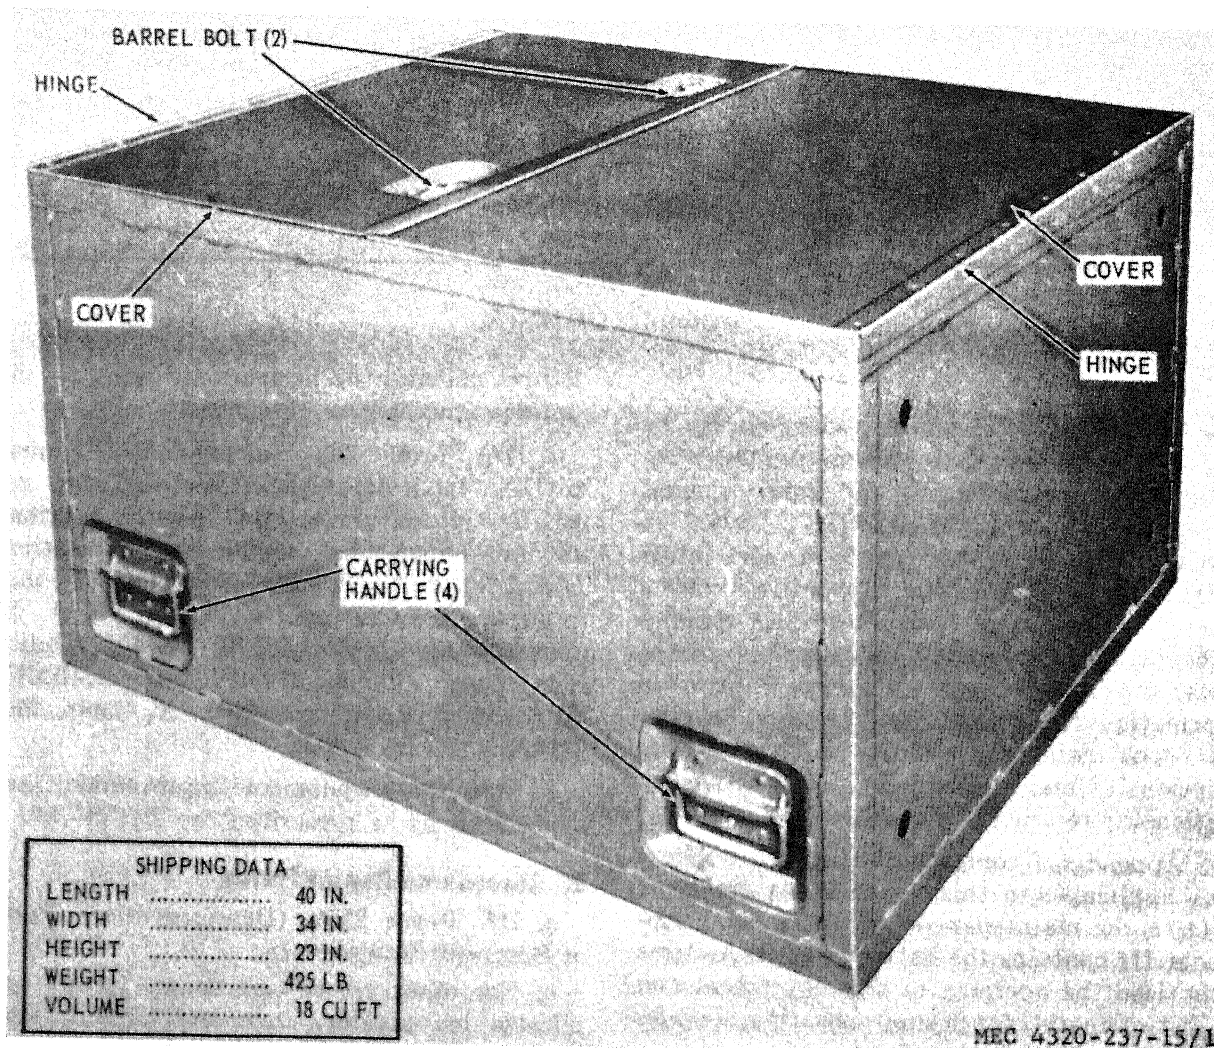

Figure 1. Carrying box for pumping assembly, model QM-2-28002, w/complete shipping dimensions, weight and volume.
a. *General.* Pumping assembly, flammable liquid, 50 gpm, Barnes Model QM-2-28002, consists of a gasoline engine driven, centrifugal pump, mounted on a frame, and packed in a carrying box along with two servicing hoses, nozzles, suction hoses, and a drum unloader. Figure 1 shows the unit completely packed in its box and provides shipping dimensions for the assembly. Figure 2 shows
(9) *Dimensions and weight (fig. 1).*